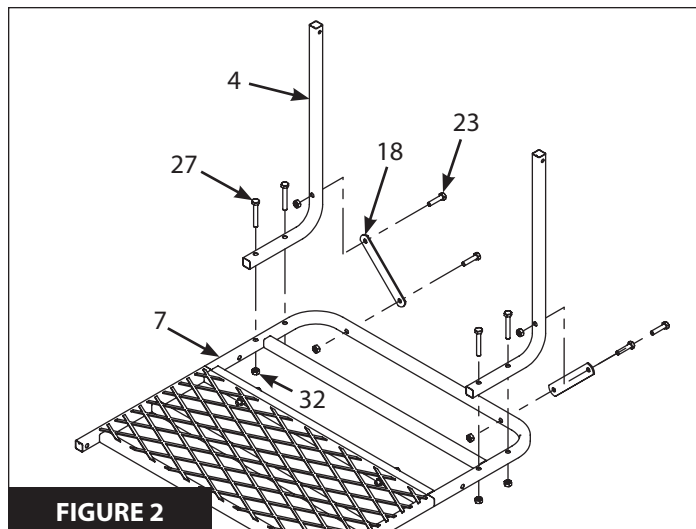

FIGURE 2
2. Attach the platform supports (4) to the top of the rear platform (7) by using four 5/16-18 x 2-1/2" bolts (27) and four 5/16" nuts (32). **SEE FIGURE 2**
3. Attach the brace flat bars (18) to the back of the rear platform (7) and to the platform supports (4) using four 5/16-18 x 1-3/4" bolts (23) and four 5/16" nuts (32). **SEE FIGURE 2**